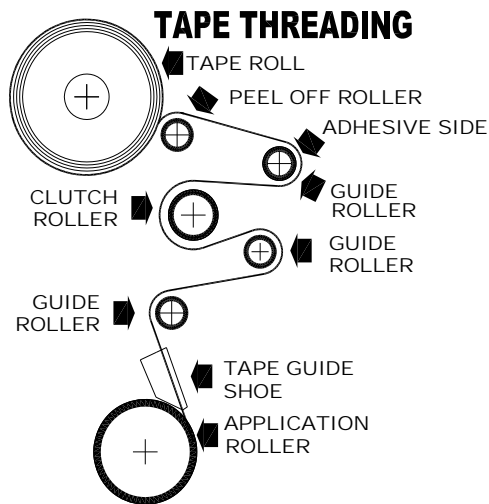
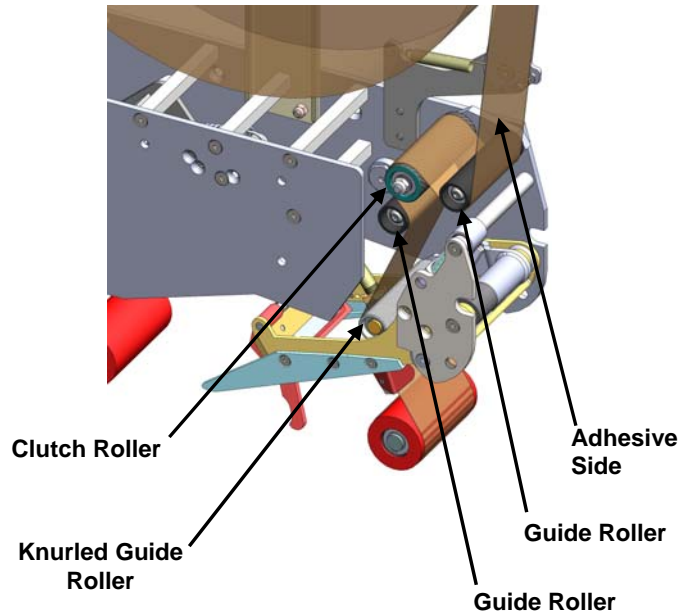

Figure-21
Figure-22
1. As Illustrated In **Figure-21**, First Thread The Tape Tail Over The **Peel Off Roller**.
2. As Illustrated In **Figure-21 And Figure-22**, Thread The Tape Over And Around The First "Smooth" **Guide Roller**.